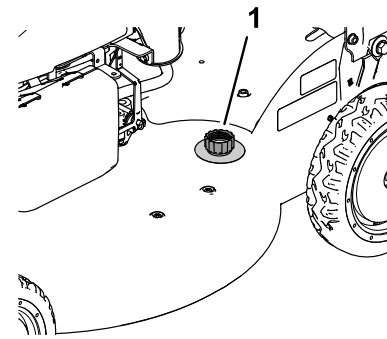

Figure 23
4. Attach a garden hose that is connected to a water supply to the washout port (Figure 23).